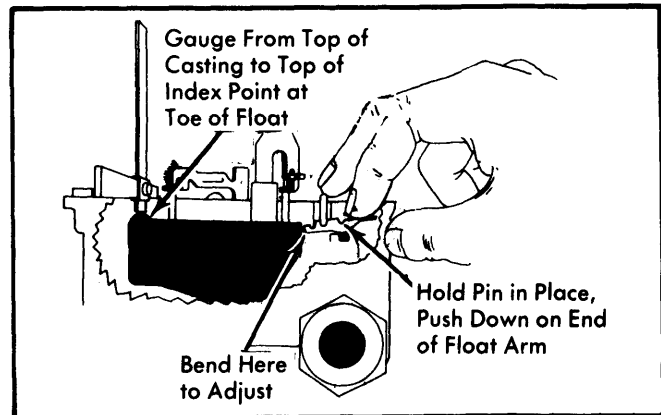

Fig. 1 Adjusting Float Level
- 1) Remove air horn. Hold float pin firmly in place. Push down on end of float arm against top of float needle. See Fig. 1.